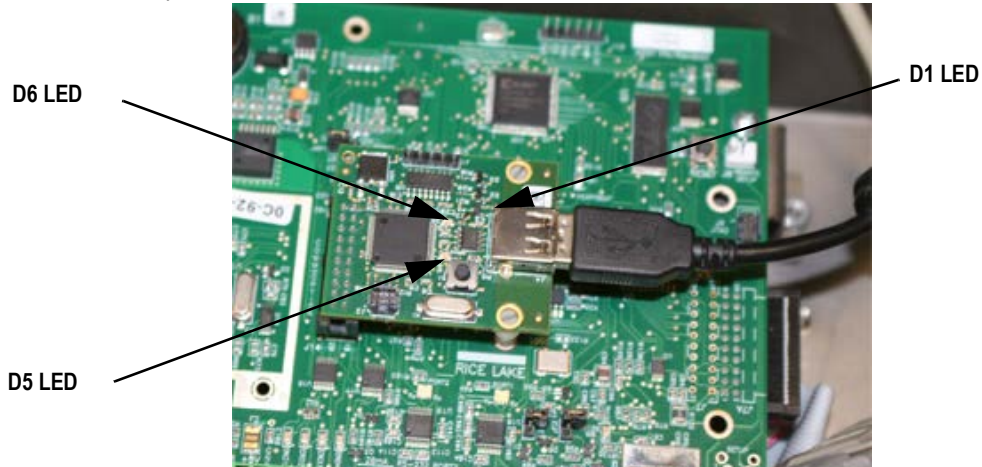

Figure 2-16. Installing the USB Option Card
- Several signal LEDs are located on the USB option board as shown in Figure 2-16.